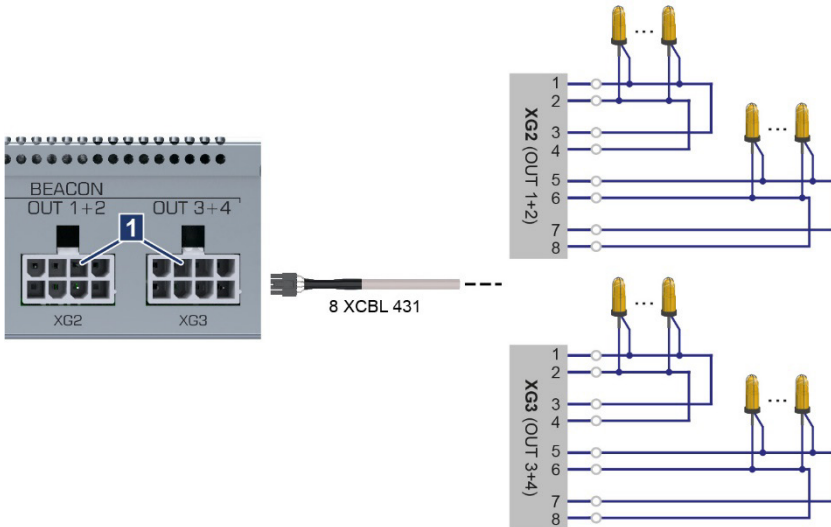

Fig. 6-7: Example of connection to XG2 and XG3 for ring wiring
1. Plug the connection cable 8 XCBL 431 into the terminal *XG2* (*OUT 1+2*) or *XG3* (*OUT 3+4*) (→ Fig. 6-7/1) on the beacon control module and connect the flying leads to the terminal points provided (→ chapter 6.3.2, page 47).